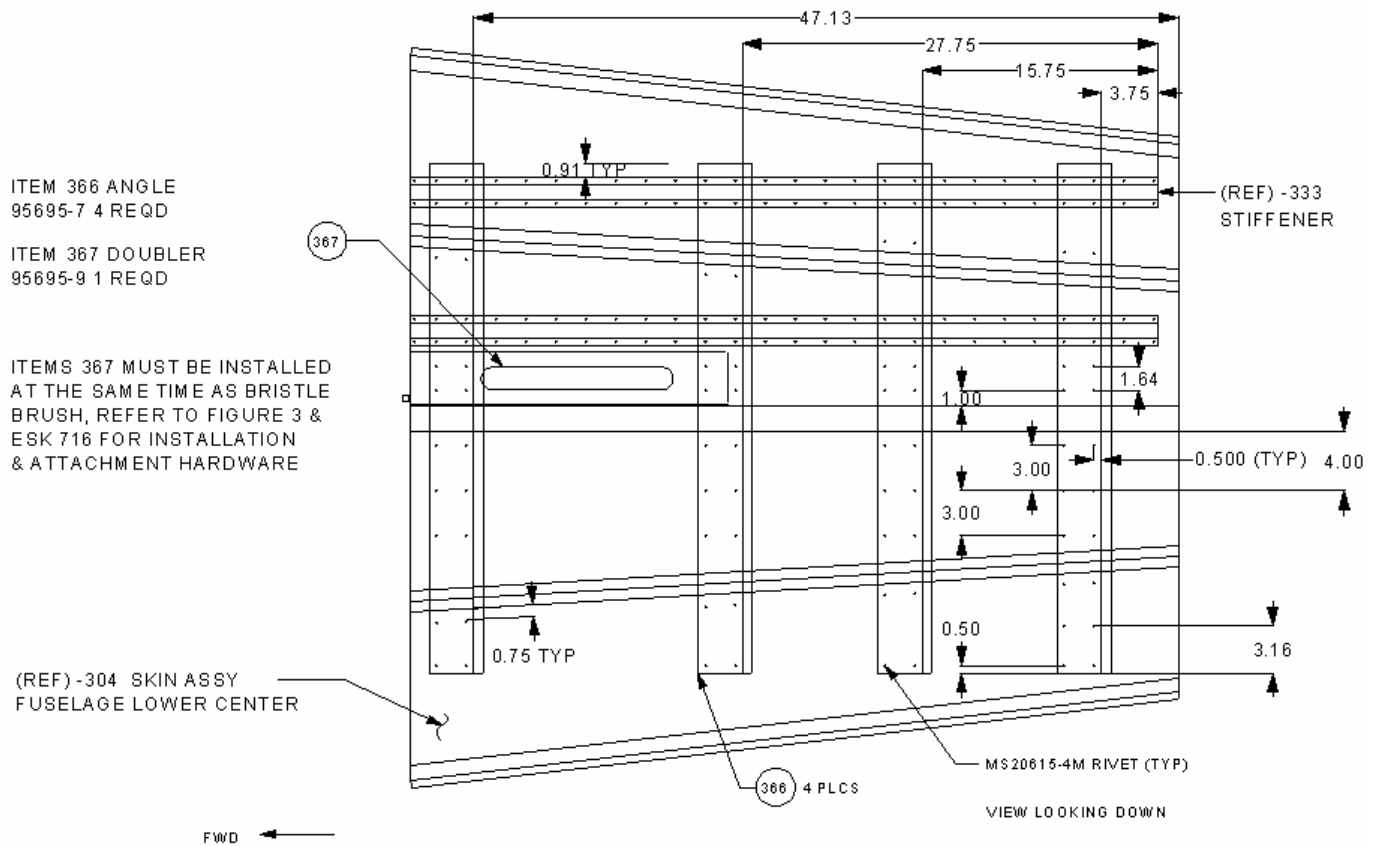

FIGURE 3 BRUSH INSTALLATION
10. **Install brushes (94389-7) and holders (94389-1) by drilling #27 Holes through holders (94389-7), doubler (95695-9) and skin, fuselage lower center (10602-1). Install screws (AN526-632R6), washers (AN960-6) and nuts (MS21044N06). Refer to figure 3 and ESK 716**
11. **Install brushes (94389-11) and holders (94389-5) by drilling #27 Holes through holders (94389-5) and skin, fuselage lower center (10602-2). Install screws (AN526-632R6), washers (AN960-6) and nuts (MS21044N06). Refer to figure 3 and ESK 716**